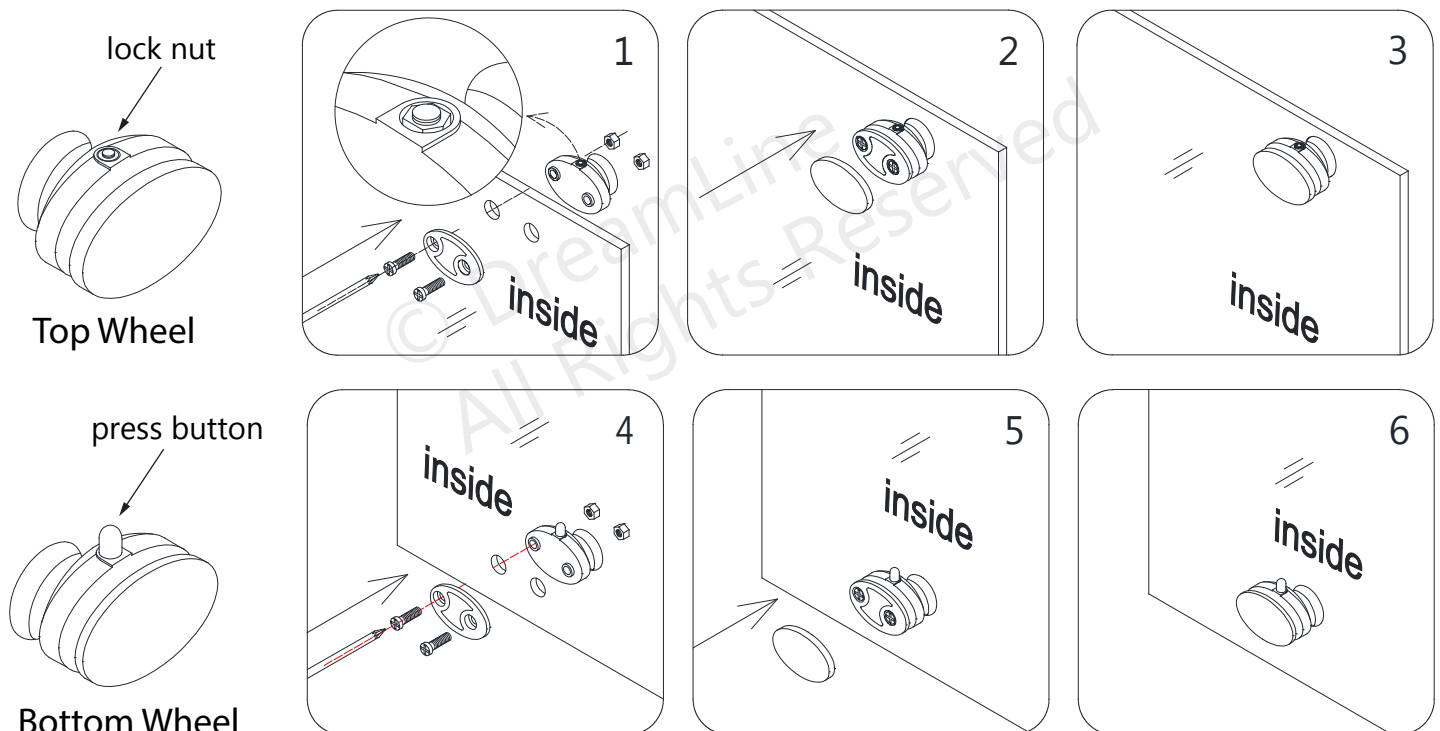

**Fig 10**
**10.** From the inside of the shower, install the **Side Strip Vinyl (#09)** in-between the **Panel Glass (#05)** and the **Glass Profiles (#01)**. Start from the bottom and do not stretch the vinyl. **(Fig 10)**